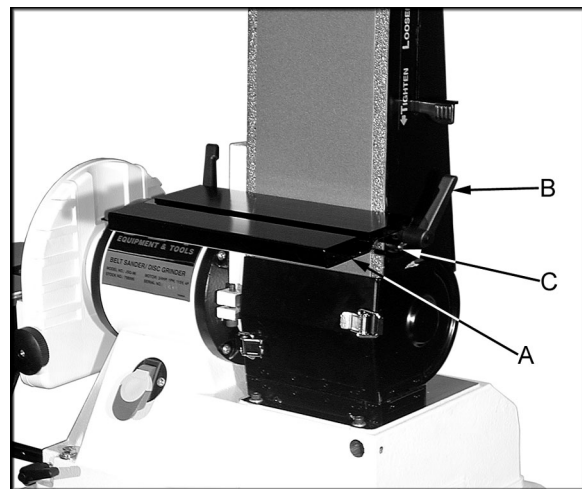
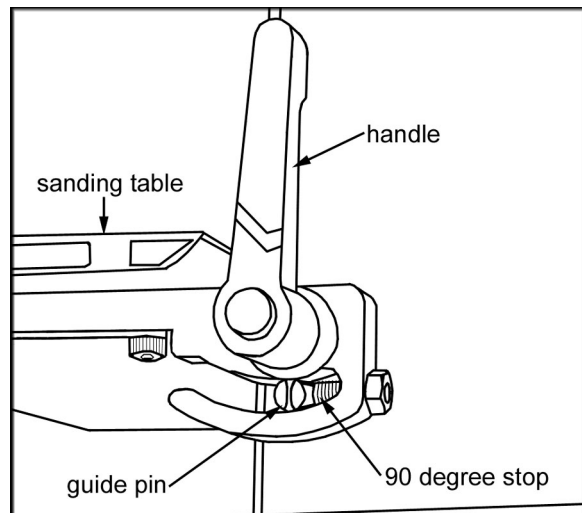

Figure 2
Figure 3
3. Mount the sanding belt table (A, Fig. 2) to the sander with two 5/16"x1-1/4" locking handles (B, Fig. 2), two 5/16" flat washers. The handle stud needs to go through the upper slot, and the guide pin (C, Fig. 2 & Figure 3) located on the sander should rest in the lower slot.